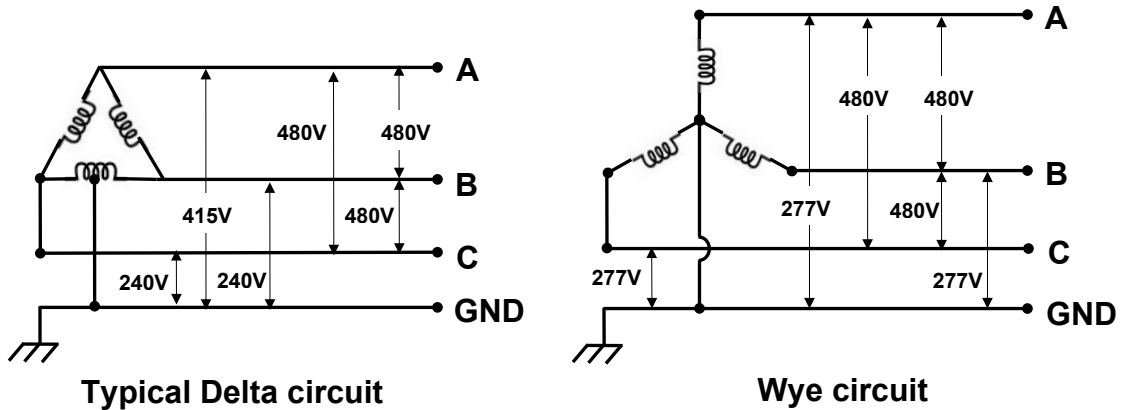

Figure 14: AC input wiring diagrams
1. The REVOLUTION chargers require a 480 VAC 3Ø, four-wire Wye or Delta electrical supply with a separate ground (Figure 14).